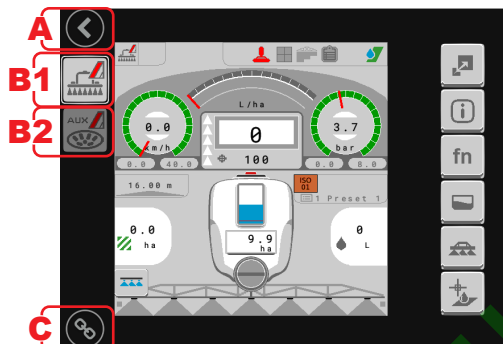

Fig. 87
- Press icon **C**  of the Fig. 87 (the icon background turns from dark to light .